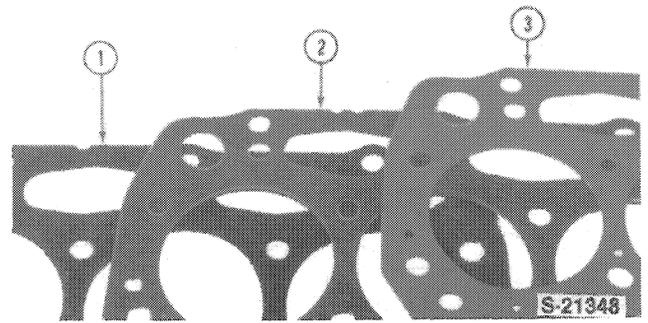

FIGURE 1-48
**NOTE: If the part number digit code is illegible, the gasket may be identified by the notch cutouts or with grommet/without grommet as shown, Figures 1-48 and 1-49.**
- 5. Lubricate the head bolt and stud threads and tighten in stages in sequence as shown, Figure 1-48.